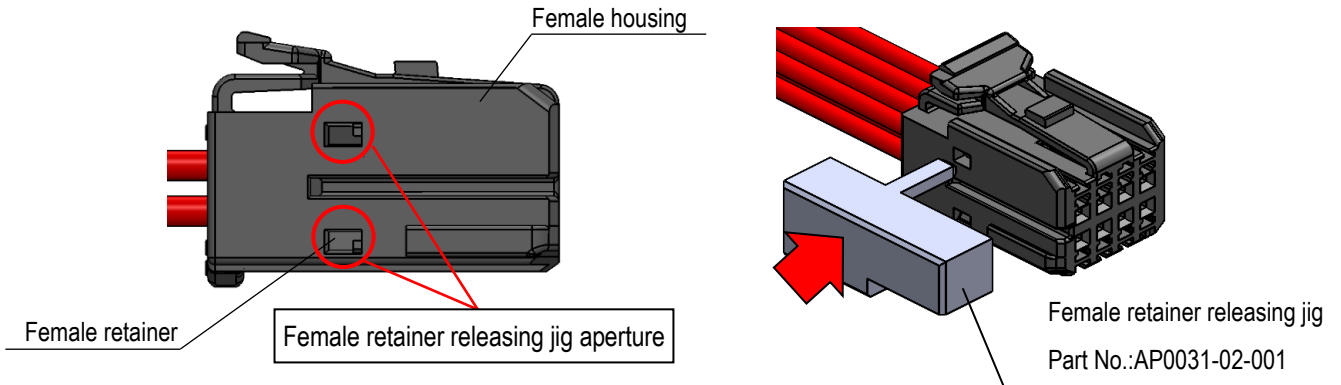

Fig.35 How to release the female retainer
- ① Place the female retainer releasing jig into the releasing apertures situated on the side of the housing (Pos.1side), and push out the retainer (see Fig.35).